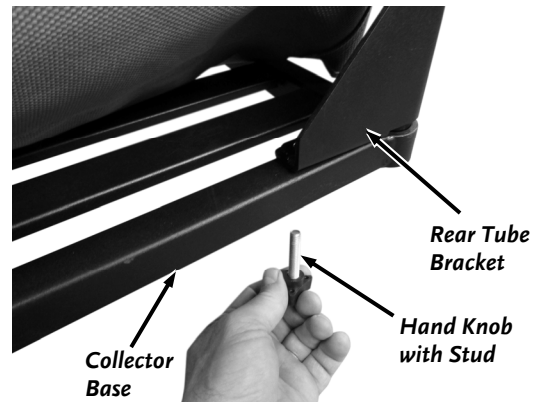

Figure 32
14. Secure the rear Tube Brackets to the Collector Base with one Hand Knob with Stud for each Bracket (Figure 32). Do not tighten fully.